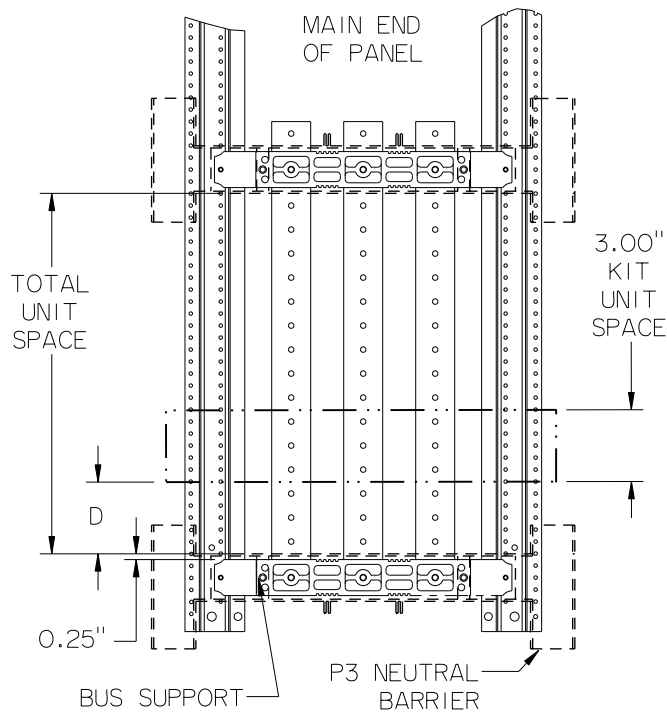

Figure 1
3. Refer to fig.1 - For taking unit space measurements in P2 panels, use the bus support located farthest from the main lug or device end of the panel. For P3 panels, use the neutral barriers if present, or the bus supports in panels without neutrals. Note that unit space starts at the inner surface of a P3 neutral barrier and 0.25" from the inner surface of a P2 or P3 bus support.
4. This kit requires 3" of unit space. Determine the location where the kit is to be installed. The kit positioning dimension D in fig. 1, must be a multiple of 3" (0", 3", 6", 9", etc.).